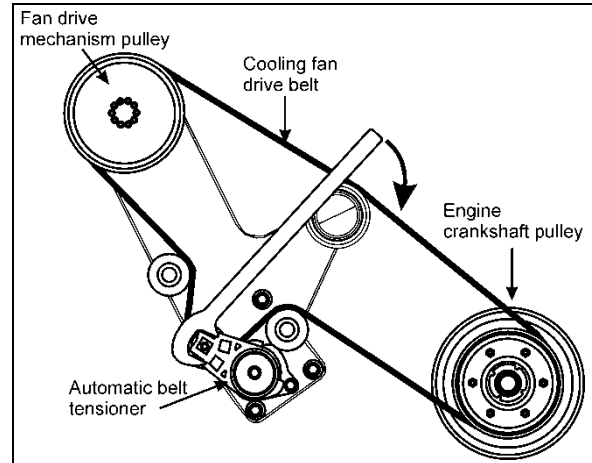

FIGURE 30: DRIVE BELT ROUTING (VOLVO D13 ENGINE)
2. Rotate the automatic tensioner in clockwise direction to relieve tension on the belt and hold the tensioner in that position (Figure 30).
3. Unscrew and remove the 4 spare M6x12 hex bolts screwed to the angle on the fan gearbox mounting support (see figure 30).